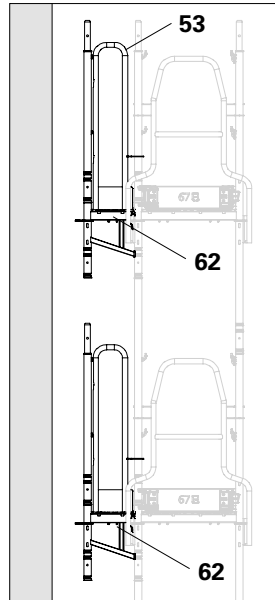

Fig. D1.02
1. Fit Console Bracket ECM (62) onto the edge frame column with pre-assembled Guardrail Post EVP (50). (Fig. D1.02 + D1.02a)